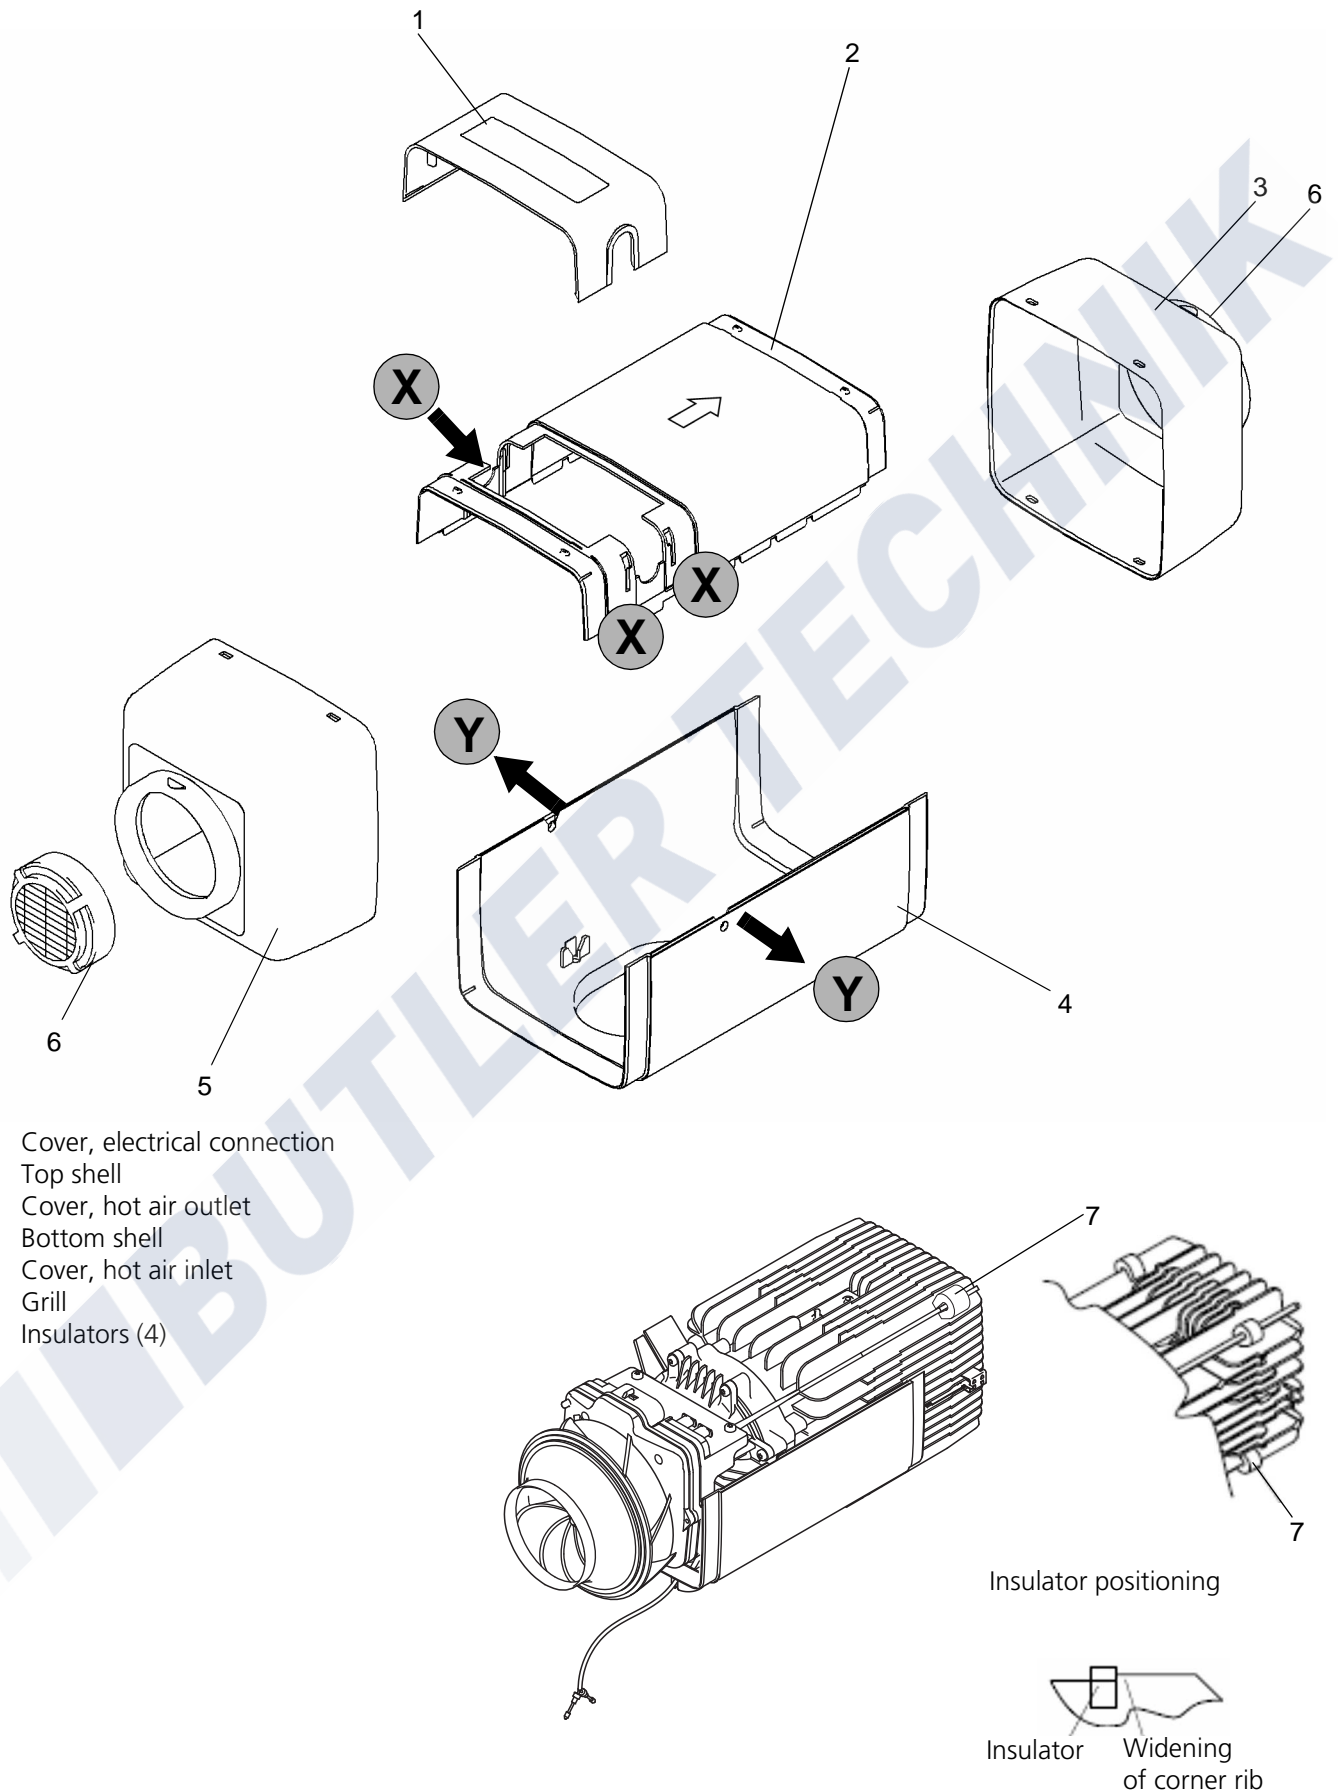

Fig. 902 Remove/fit the casing parts
The cover (1, Fig. 902) can be carefully levered off using a blunt blade in the areas marked "X".
The grill (6, Fig. 902) can be released from its mounting by twisting it and then pulled off forwards.
Both covers (3 and 5, Fig. 902) can be released from their mountings and removed by pressing the four detents at the top and bottom using a suitable tool.
The top shell (2, Fig. 902) can be raised after the covers for the hot air inlet and outlet have been removed.
2. Expand the bottom shell (4, Fig. 902) slightly at the side and fit it to the heater from underneath until the securing pins on the heater engage in the holes in the shell.
Place the top shell (2, Fig. 902) on the heater and secure it in the grooves in the bottom shell.
Push on the covers (3 and 5, Fig. 902) until the four securing holes engage properly in the detents on the bottom and top covers.
Fit the grills (6, Fig. 902) on the covers for the hot air inlet and outlet and twist them to secure them.
Slide on the cover (1, Fig. 902) until it audibly engages in the top cover.